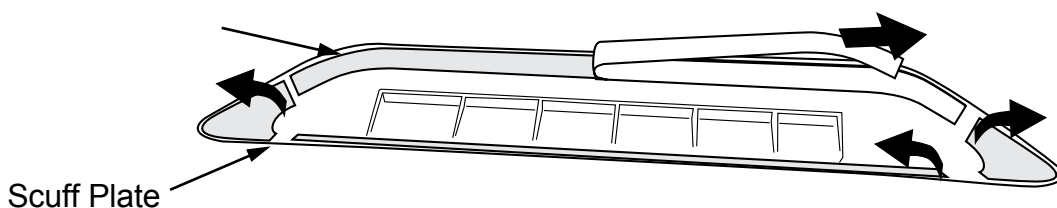

Figure 6
- A. Locate Scuff Plate marked as LH and remove the backing from the tape and discard. (Figure 6)